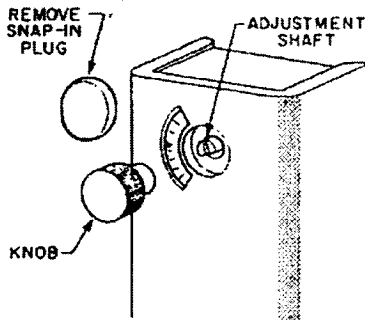

Fig. 4 — Drawing showing snap-in plug removed and the knob in line to assemble. Press the knob onto the slotted shaft.
Fig. 4 - The A19 with remote bulb and convertible adjustment has a snap-in plug in the cover, a knob for field installation, and a bulb mounting clip with sheet metal screw.
**Fig. 4 — The controls have a screw type cutout stop. The stop screw must be loosened and moved to the stop setting desired. Tighten the screw after the setting is made.**